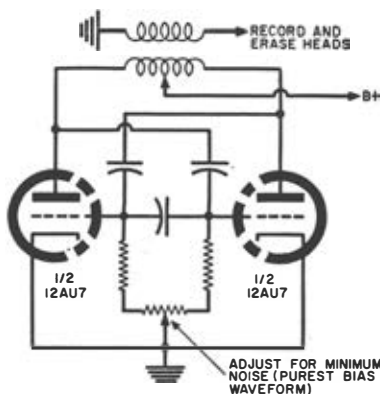

Fig. 1. Push-pull bias oscillator.
6. Bias Waveform: The waveform produced by the bias oscillator and fed to the record and erase heads should be as close as possible to a pure sine wave. Distortion in the waveform can be a source of noise because such distortion may represent a d.c. component, magnetizing the head and causing noise, as already explained. The bias waveform should be viewed with a scope to pinpoint gross distortion, if present. But this is only a preliminary check, because much less than the approximately 5% distortion discernible on a scope can produce appreciable noise, therefore voltages and components in the oscillator circuit should be checked. Possibly the oscillator is overloaded by a defective erase head or other defective component. High quality recorders generally employ a push-pull oscillator, typically a 12AU7 or 12BH7, and in the case of poor waveform the circuit should be checked for matched components, namely grid resistors and coupling capacitors. Fig. 1 shows a typical push-pull oscillator circuit. This one also incorporates a means of balancing each half of the oscillator for maximum symmetry and, therefore, purest waveform; that is, the grids are connected to ground through a balancing potentiometer.